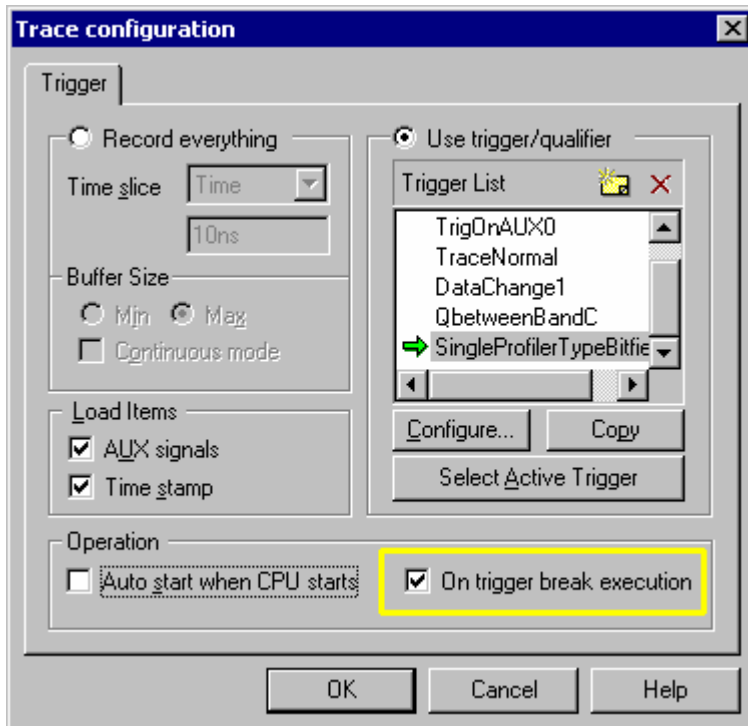

Figure 33. Trace Configuration dialog
- If the program must stop when the trigger condition occurs, check 'On trigger break execution' option in the 'Trace Configuration' dialog (Figure 33). Note that the CPU stops few CPU cycles after the trigger event due to the latency of the hardware processing the trigger and stopping the CPU.